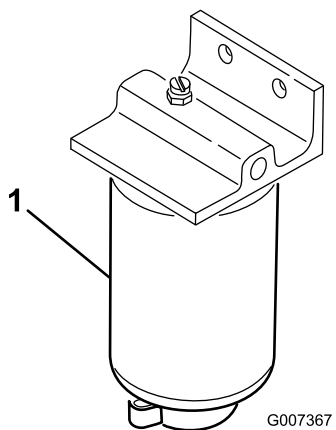

Figure 28
2. Place a drain pan under the fuel filter (Figure 28).
3. Open the drain plug on the bottom of the fuel filter and drain any accumulated water (Figure 28). Tighten the plug after draining.